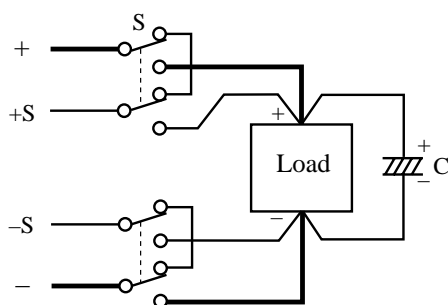

Fig. 4-2 Power on/off using mechanical switches
- **To turn on/off the power supplied to a load using a mechanical switch, provide additional switches between the sensing wires as shown in Fig. 4-2; turn on/off the power and remote sensing function simultaneously.**
5. Connect an electrolytic capacitor (C) with a capacity of approx. 100 to 100,000 μ F across the load terminals.